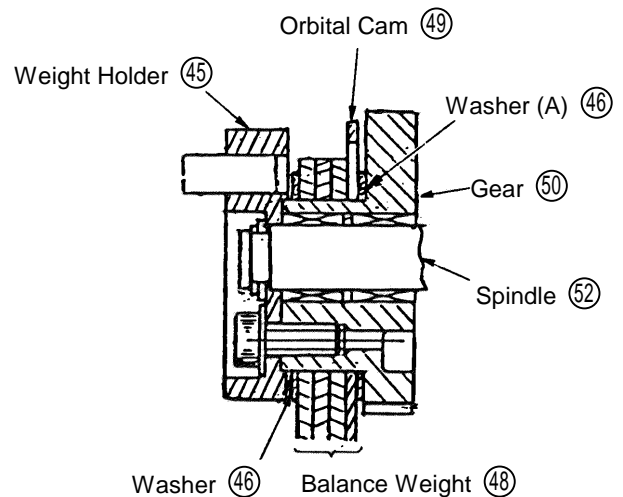

Fig. 17
- (4) Carefully ensure that the two Washers (A) (46), the Orbital Cam (49), and the three Balance Weights (48) are assembled as shown in Fig. 17.